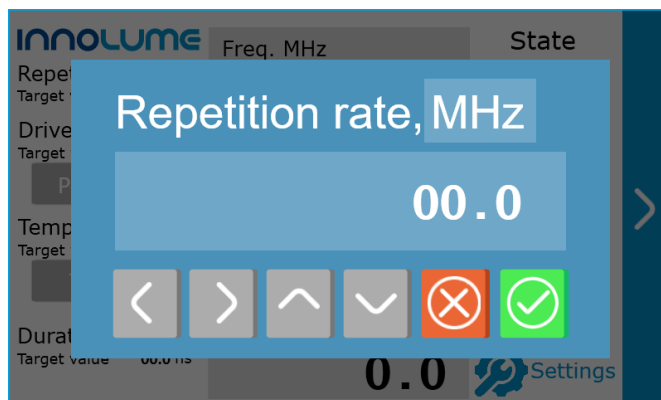

Figure 20 – Setting the repetition rate
7. Tap on repetition rate value to set the pulse train repetition rate (fig. 20). Select the frequency range (Hz, kHz or MHz), then use the left and right arrows to select the digit to change, use the up and down arrows to change the value. Press  button to save the changes and exit menu. Press  button to exit menu without changes.